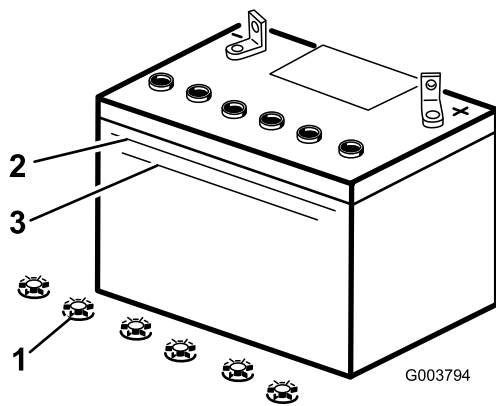

Figure 37
3. Look at the side of the battery. The electrolyte must be up to the Upper line (Figure 37). Do not allow the electrolyte to fall below the Lower line (Figure 37).
3. Remove the filler caps from the battery (Figure 37).
4. Slowly pour distilled water into each battery cell until the electrolyte level is up to the Upper line (Figure 37) on the battery case.
level is up to the Upper line (Figure 37) on the battery case.